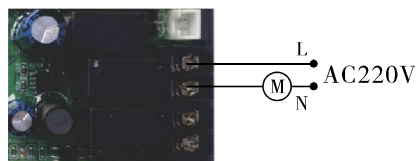

Figure3-4
D. When the signal output connector is connected with the water pump or solenoid valve, the working current is less than 5A. Its wiring refers to Figure 3-4.